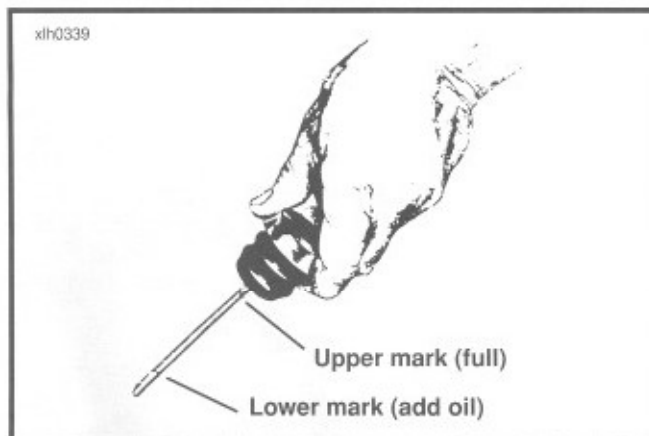

Figure 3-39. Oil Tank Filler Cap/Dipstick
4. See Figure 3-39. Remove filler cap and check warm oil level on dipstick. Dipstick has two marks. If oil level in tank is at or below lower mark, add one quart (0.946 liter) of Harley-Davidson oil to tank.